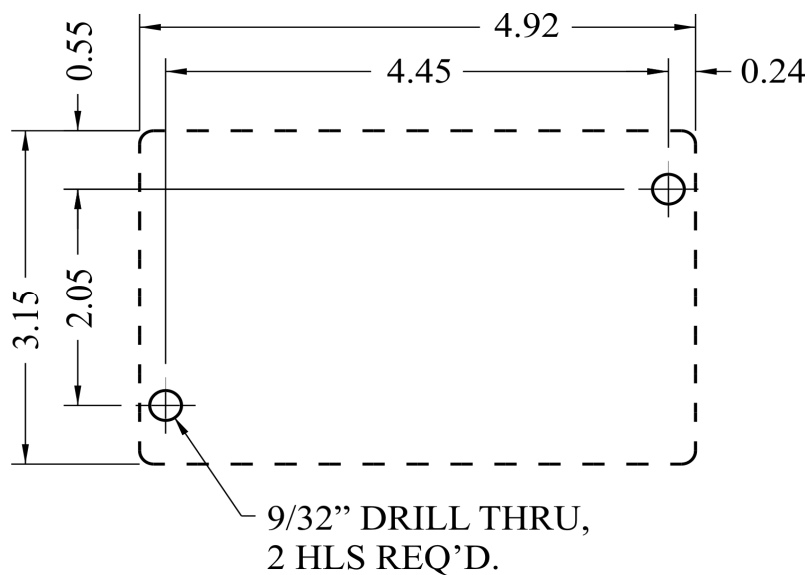

Figure 12
- Mark mounting holes on panel or bracket per dimensions in Figure 12.